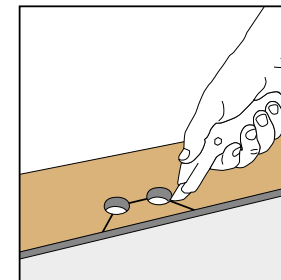
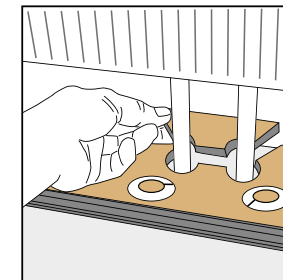

Figure 41
Figure 42
- > Mark the centres of the holes on both the long and short sides using a carpenter's square and a pencil. Where the marks cross, drill a pilot hole using a thin #6 or #8 drill bit. Further drill the hole with a spade bit wide enough to accommodate both the diameter of the pipe and the required expansion gap. Cut around as shown with a saw or utility knife (Fig 41) and put a bead of suitable contact adhesive on the cut piece and replace (Fig 42). Insert a spacer directly behind the inserted piece to wedge it in place ensuring that the correct sized expansion gap has been left. Leave this in place until the adhesive has hardened.